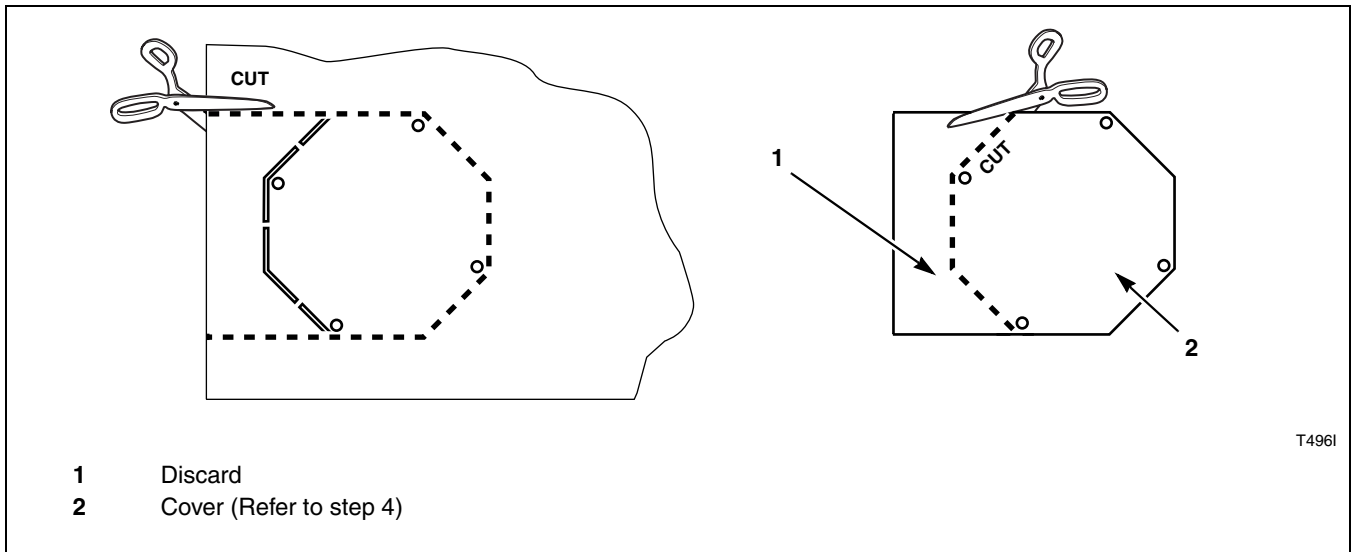

Figure 8
3. Cut out shape from belt guard cover. Refer to *Figure 8*.